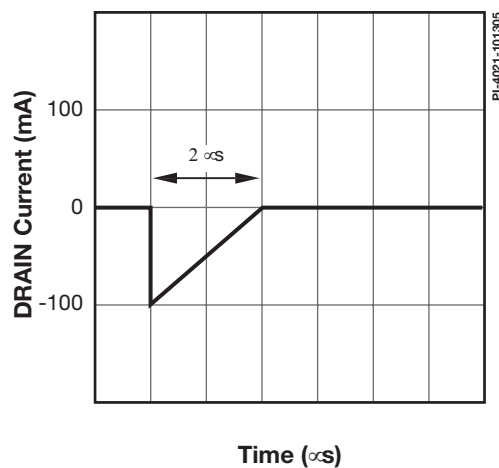

Figure 9. Peak Negative Pulsed DRAIN Current Waveform.
4. Negative drain voltages – Clampless designs may allow the drain voltage to ring below source and cause reverse currents to flow from source to drain. Verify that any such current remains within the envelope shown in Figure 9.